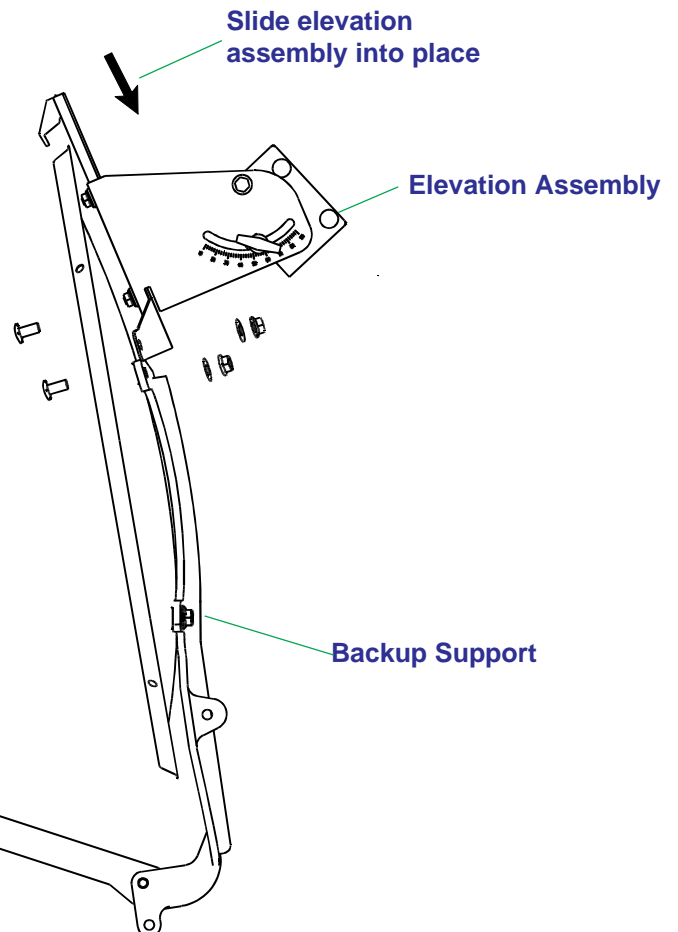

FIGURE 3
STEP 2. Remove the two top bolts from the backup support and attach the elevation assembly to antenna. See Figure 3. Tighten bolts securely.